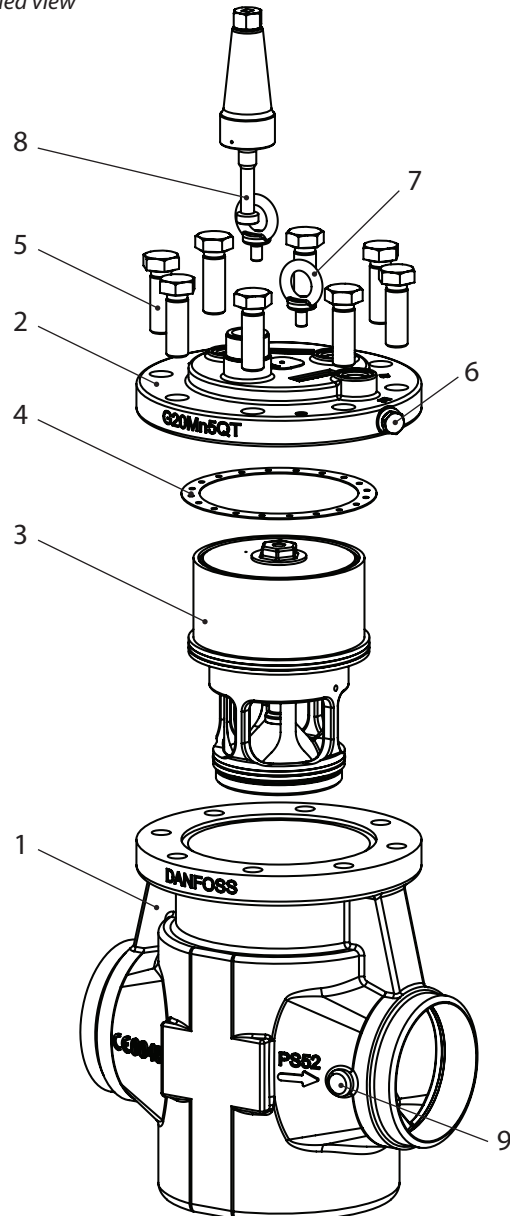

fig. 4
Design (fig. 4)
The function module can be lifted out using a bolt size M10 or by using one of the eyebolts placed in the topcover (fig 4, pos. 7). Debris blocking the bolt hole will need to be removed.